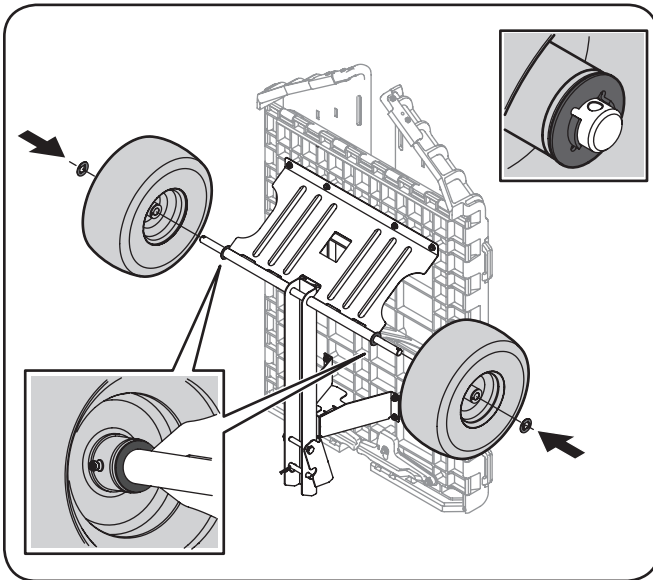

Figure 3-3
- Slide the inner flat washer from the hardware pack, the tire and outer flanged washer from the hardware pack onto the axle as shown in Figure 3-3. Make sure the valve stem on the tire rim is facing outward.